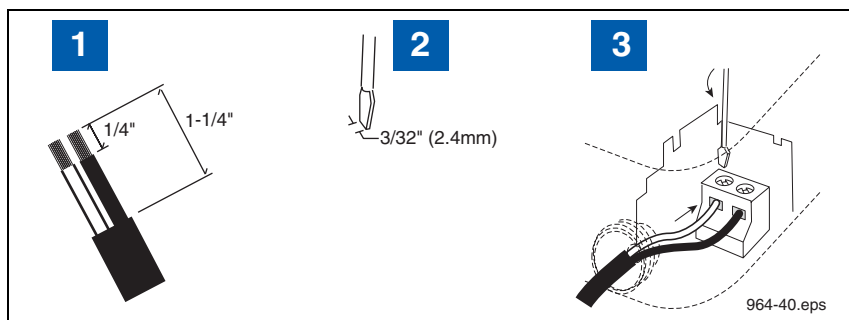

Figure 4. Connecting Wiring To Device Terminal Blocks
- d. Strip back the cable jacket and wires as shown in Figure 4.
LEGEND FOR NUMBERED BOXES IN Figure 4
| <ul style="list-style-type: none">1. Connect the shield of the RS-485 cable to the ground lug.2. Cord grip3. RS-485 cable to Receiver4. Power side5. Intrinsically-safe side6. NOTE: Attach one end of RS-485 cable to the RS-485 terminals in the TLS RF and other end to the RS-485 terminals in the Receiver. One twisted pair connects to terminals - and + (RS-485 signals) and the second twisted pair connects to terminals +15 and G (Receiver power). | <p>6 (Cont'd).</p> <p>Connect each of the four wires to the same terminals in the Receiver (ref. Figure 23).</p> <p>NOTE: see Figure 4 for wire connection tips.NOTE: In sites with more than one TLS RF, the Receiver is only connected to the master TLS RF.</p> |